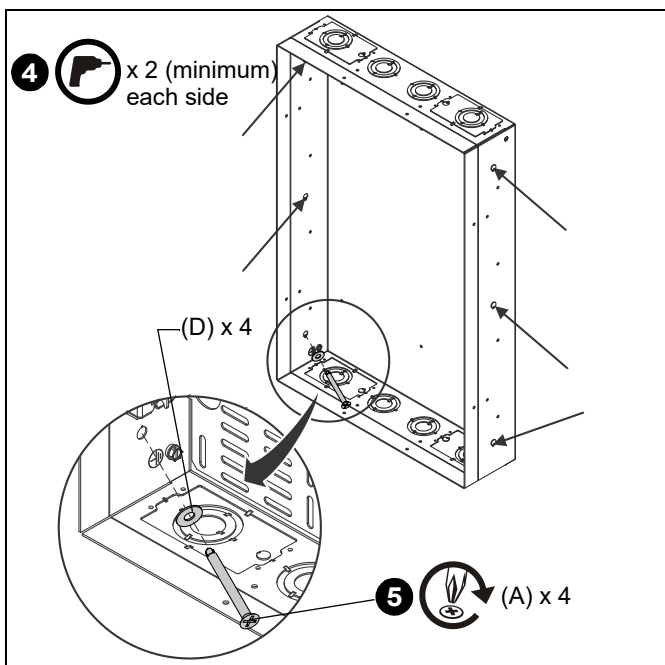

Figure 8
5. Install PAC527L to studs using four 1/4 x 2-1/2" Phillips flat head screws (A) and four 3/8" flat washers (D) through PAC527L and pilot holes. (See Figure 8)